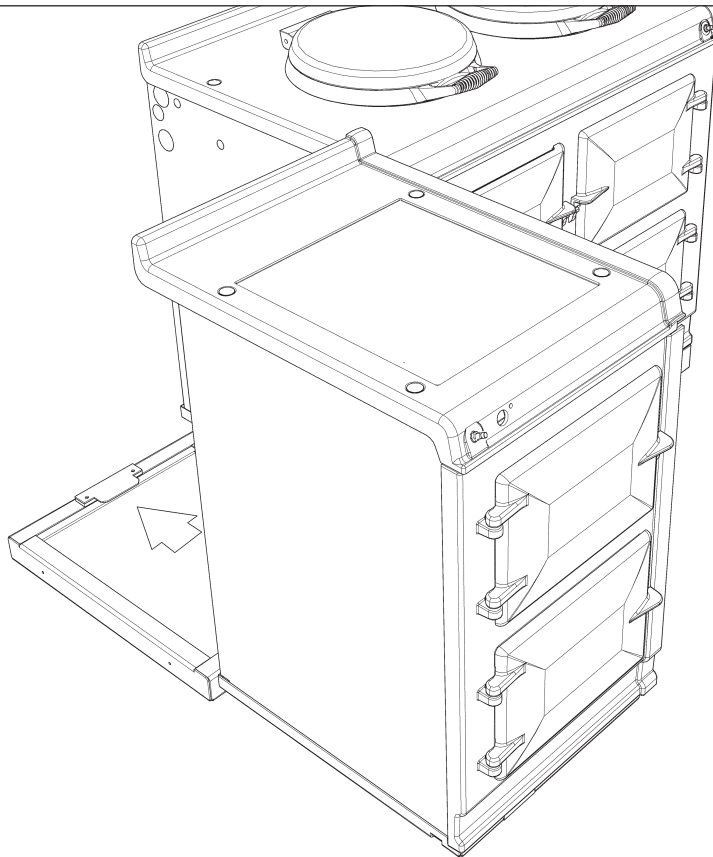

Fig. 12
6. Slide hotcupboard onto plinth until rear tongue bracket engages fully into rear of base slot, (See Fig. 12). Ensure the appliance is aligned squarely with the plinth then proceed to engage the front tongue bracket into the slot on the underside of the base plate. Once satisfied that the front tongue bracket is engaged fully lock it into place by tightening the two M6 screws fully.